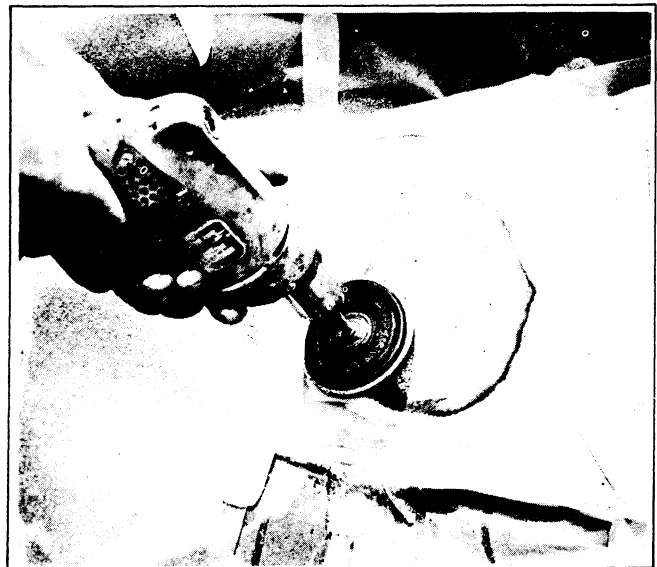

Figure 2-78. Blending Patch with Sander
10. Allow the patch to cure overnight; then sand with dry 80-grit paper on power sander. Smooth the patch and blend it with surrounding surface. If air pockets are present, puncture and fill with catalyzed resin. Let cure and re-sand. See Figure 2-78.